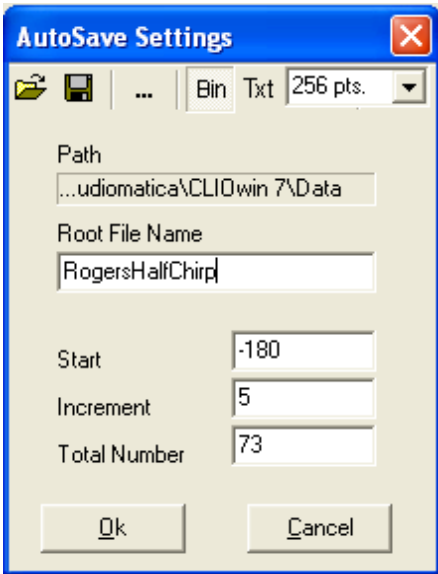

Figure 12.11
Let's start with setting the autosave function. Pressing **Alt-F2** we recall the Autosave Setting dialog (fig.12.11); here we input the desired filename ('rogerslogchirp'), start (-180) increment (5) and total (73) values.